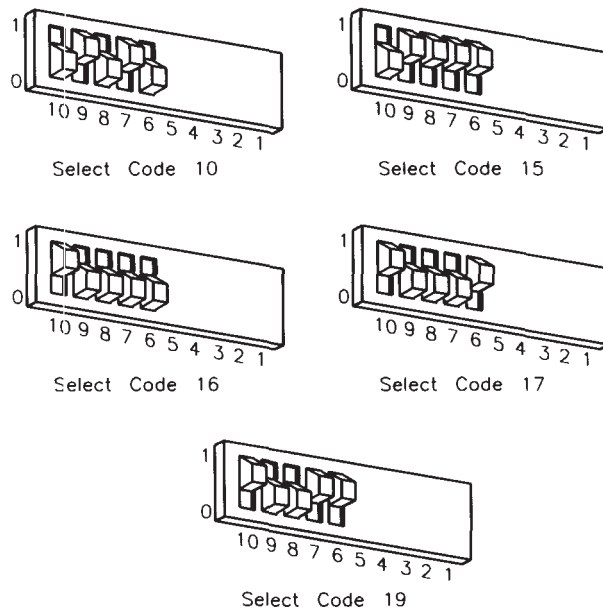

Figure 5-32.
- b. Set these switches to one of the five select codes given in Figure 5-32, unless you have used them elsewhere (check the Select Code Record on the Chapter 5, "Interface Cards" tab to see which ones you have used). Refer to the installation note that came with the interface if you need additional switch settings.